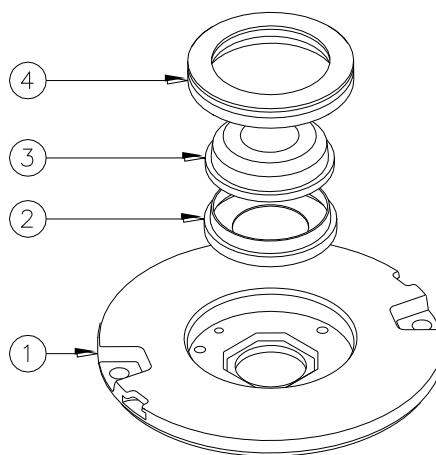

Figure 23 - Lens Replacement
- remove the old lens and the gasket (Figure 23 – n°2-3), carefully clean the lens seat by scraping and taking care not to damage the relevant walls.
- place a new gasket (Figure 23 – n°2) around the lens